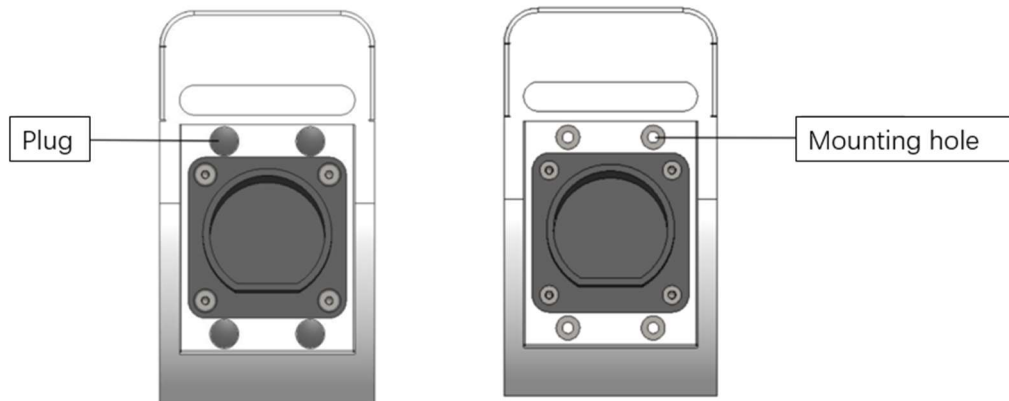
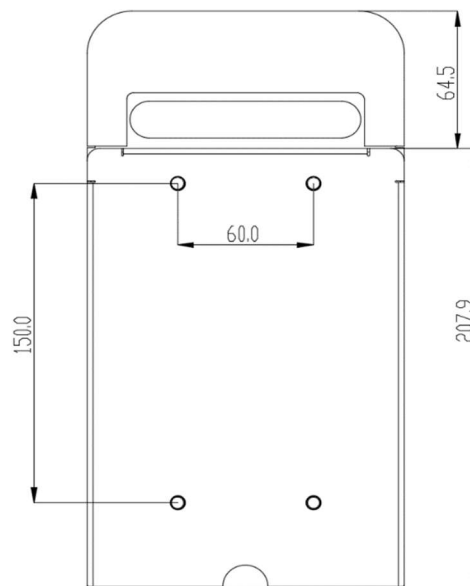

Figure 16 Connector plug and mounting hole
Figure 17 Mounting hole location
(9) After wiring, tighten the incoming waterproof gland, fix the transparent protective cover with the removed screws, retract the door brace and close the door.
(10) After the installation of the charger main body, start to install the connector holders. After taking out the connector holders, take away the four black plugs on the he connector holder, refer to Figure 16, select a suitable position on the wall (it is recommended that the lower edge is 950mm away from the ground), and mark the drilling position according to the four holes on the connector holder, refer to figure 17.